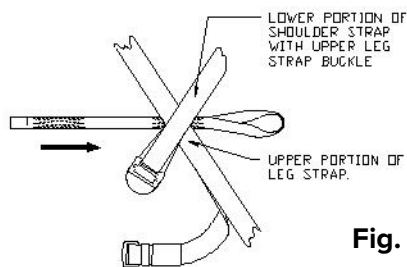

Fig. 1
- Slide the end of the rappelling loops with the 4" diameter loop under the harness straps at the point where the lower portion of the shoulder straps cross the upper portions of the leg straps (Fig.1). Hitch the rappelling loops to the harness as shown in Fig. 2.
If using 'A1-24 or A1-24Black' retro rappelling loops Slide the end of the rappelling loops with the 4" diameter loop under the harness straps at the point where the lower portion of the shoulder straps cross the upper portions of the leg straps (Fig.1). Hitch the rappelling loops to the harness as shown in Fig.2.